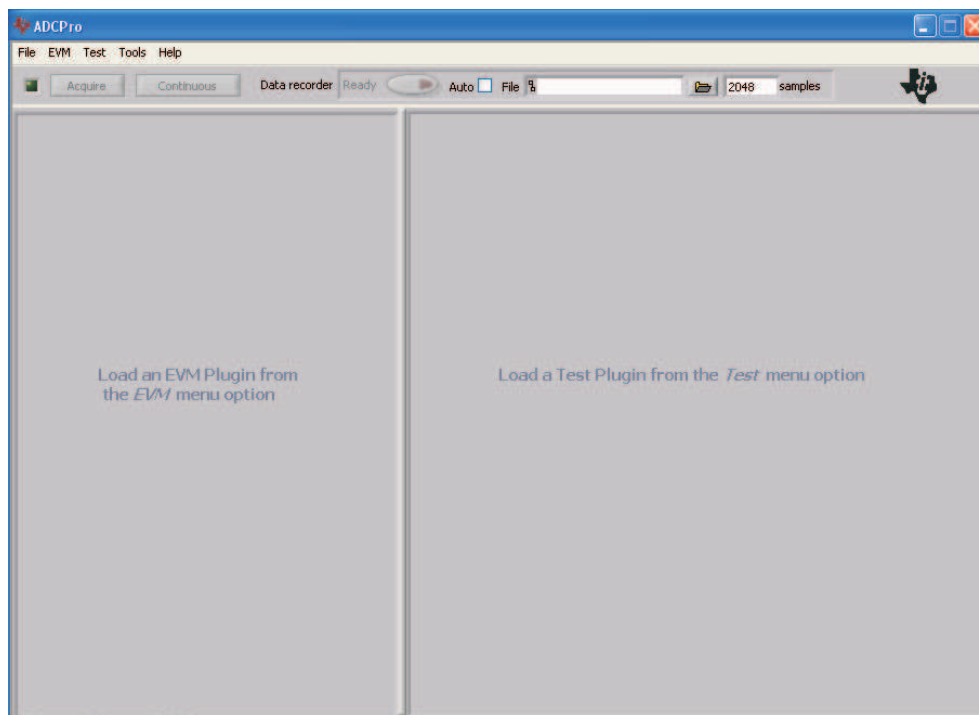

Figure 7. ADCPro Software Start-up Display Window
1. Start the software by selecting *ADCPro* from the Windows Start menu. The screen in Figure 7 appears.